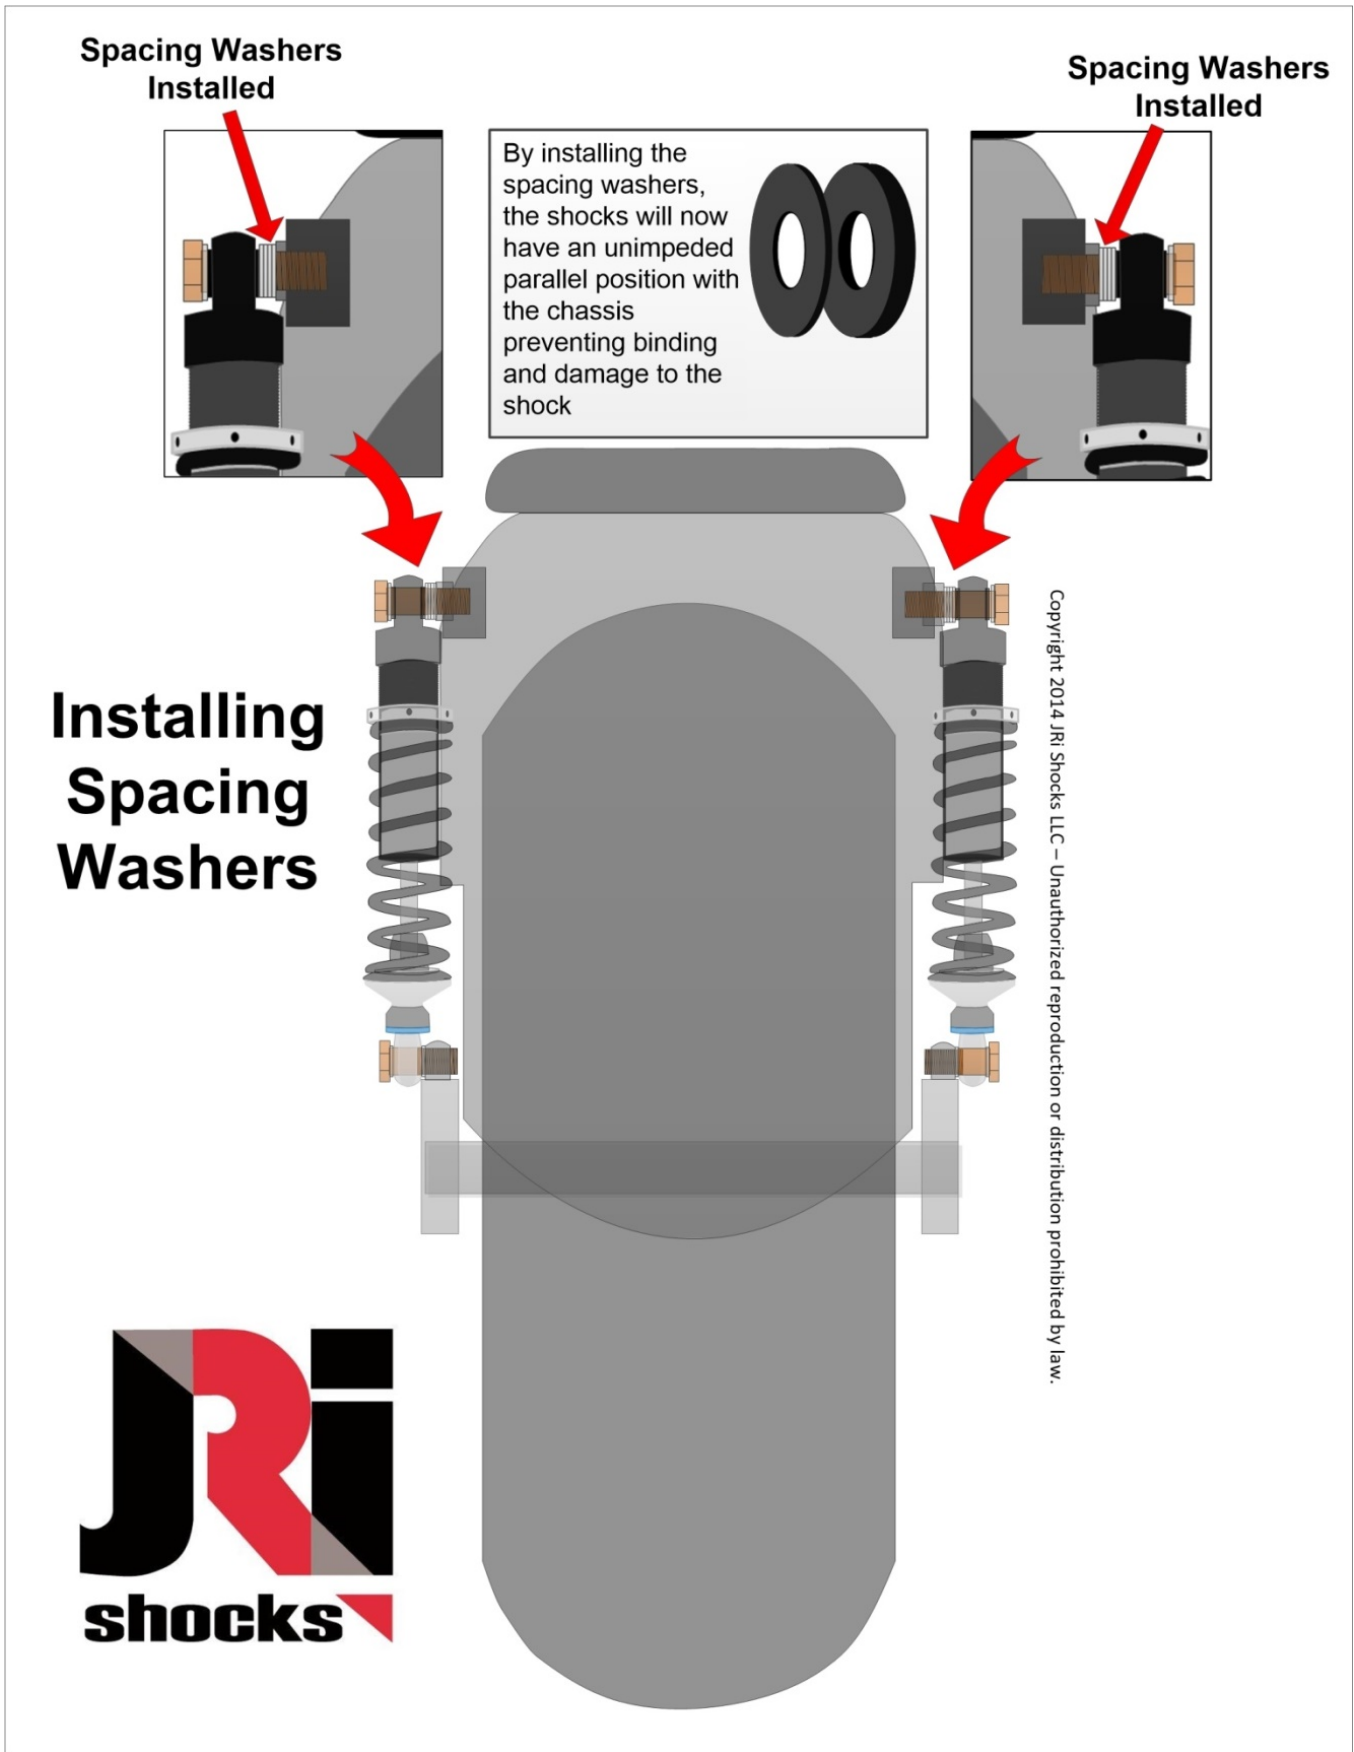
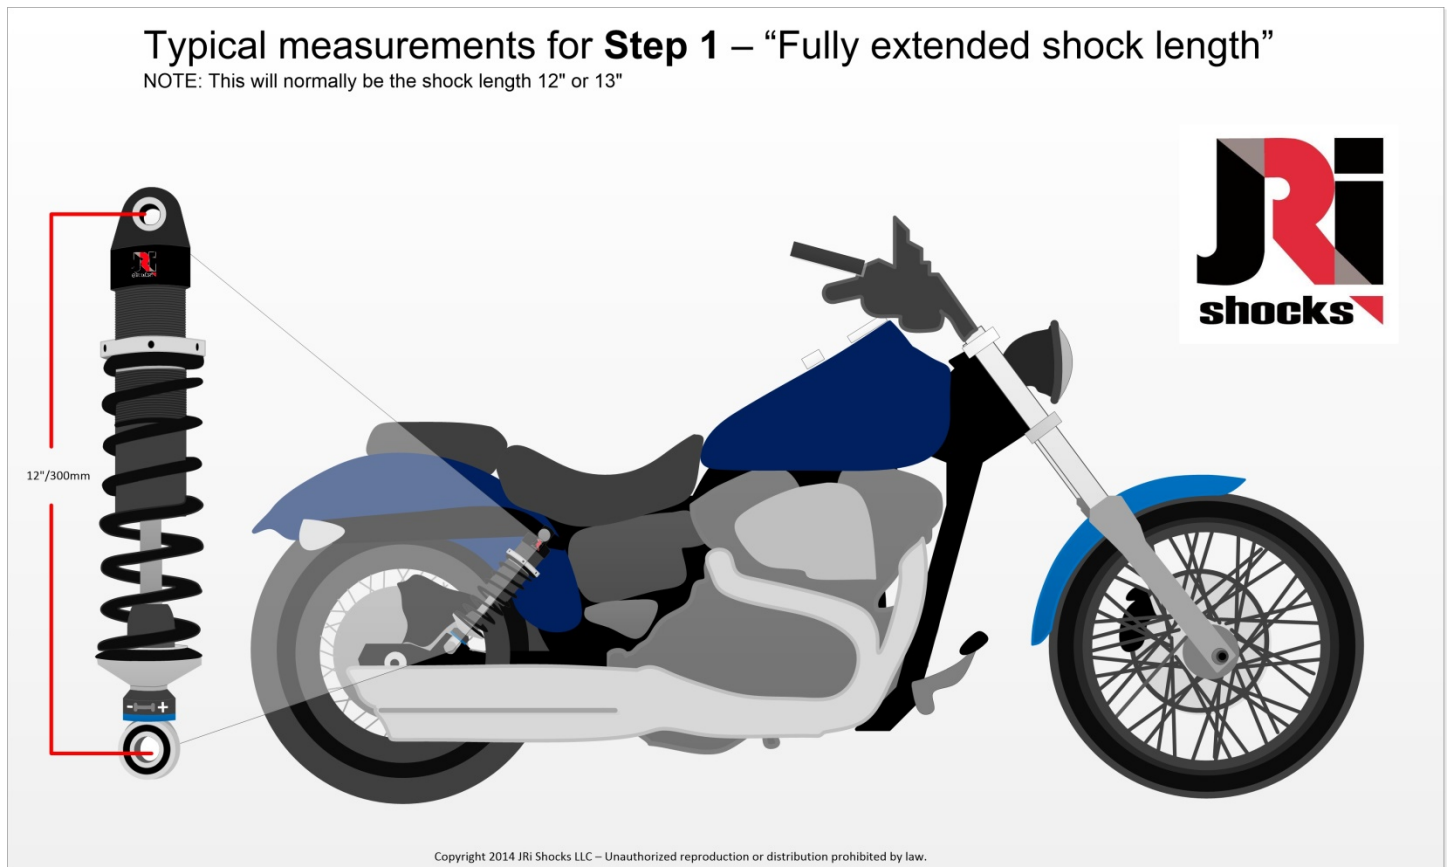

Figure 6 - Installing spacing washers
Figure 8 - 1st measurement for setting sag
Use spacing washers to provide a proper fitment. It may take a several washers (see figure 6) to achieve proper fitment. Please ensure that you do not allow the shocks to "angle in" (see figure 8), which will cause immediate damage to your shocks and cause unsafe operation of your motorcycle.
- 1) Let the motorcycle sit under its own weight with you on it and measure from the center of the top shock bolt to the center of the lower shock bolt. (SEE Figure 8)